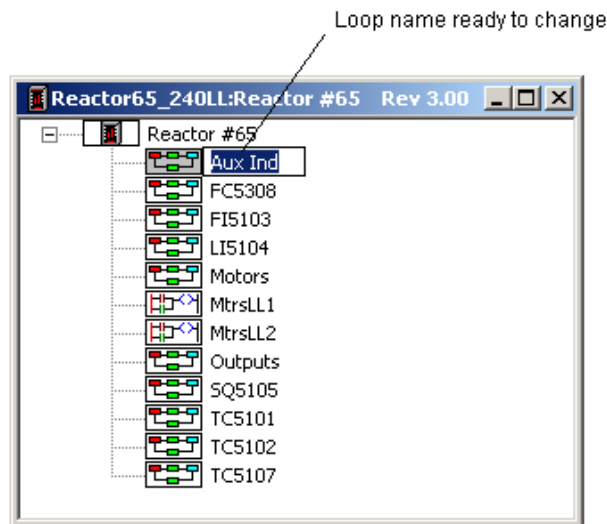

Figure 2-7 Loop name ready to change
1. Click the controller or loop name in the tree. See Figure 2-7.